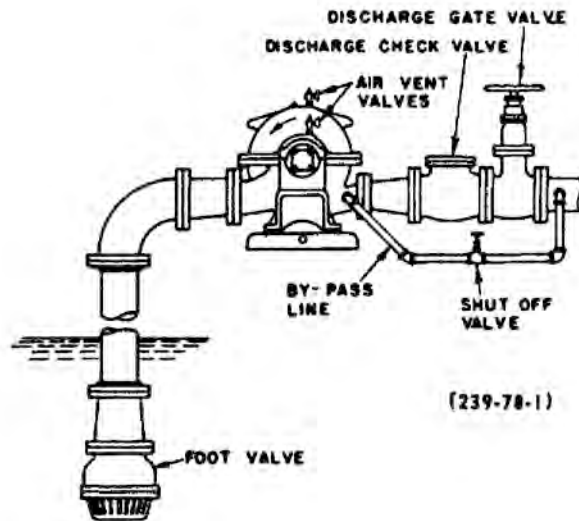

Figure 11:
3. Bypassing Around Discharge Check Valve (See Figure 11: on page 23).